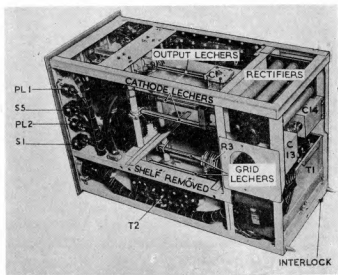
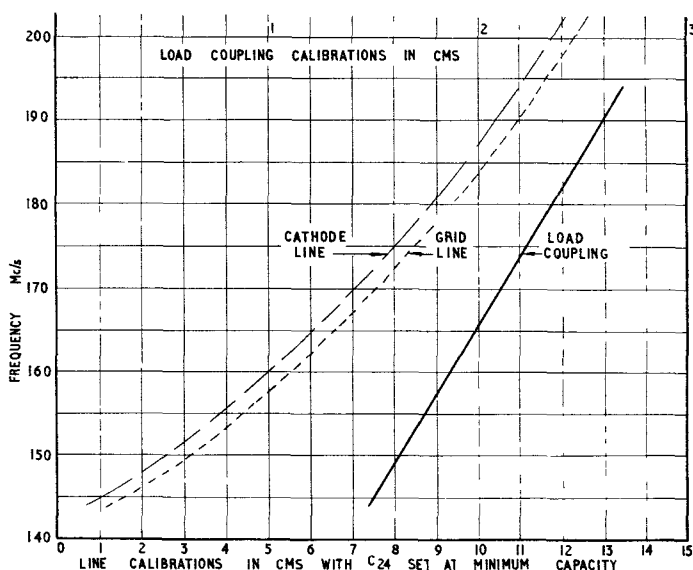

Fig. 20. Transmitter Type T.3117 : interior
Fig. 21. Calibration chart for transmitter Type T.3117
65. Disconnect the transmitter cables, and withdraw it from its case. Check that the mains tapplings (*fig. 20*) are set for 230V and that the link is set to HIGH.
- (1) Connect a voltmeter, by means of a jack plug and suitable lead, into the hole marked FIL 1 VOLTS and check that a reading of 3.45V is obtained. Repeat for FIL 2 VOLTS. If the readings are incorrect, adjust the tapping clips of resistances R2 and R3 (*fig. 20*).
- (2) Set the grid and cathode lechers shorting bars to the positions shown on the graph (*fig. 21*) according to the required operating frequency. The measurements given in the graph refer to the edges of the shorting bars nearer the valve.
- (3) Set the FREQ ADJ control to its mid position.
- (4) Replace the transmitter in its case, taking care to see that it is pushed well back so that the interlock circuit is completed (*fig. 20*). Reconnect the transmitter leads.
- (5) Remove the aerial feeder and connect the artificial aerial instead.
- (6) Switch on the mains supply ; the transmitter is now ready to be set up.